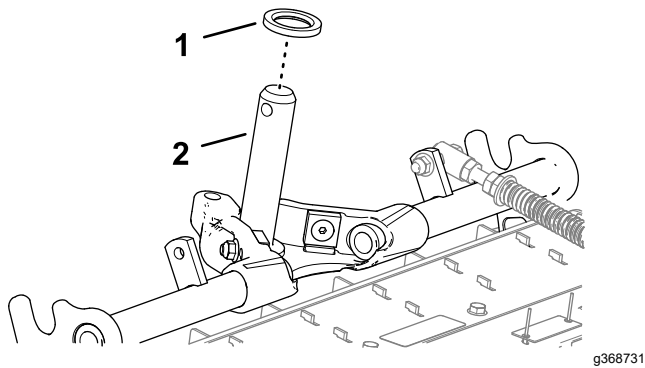

Figure 13
1. Ensure that the countersunk thrust washer is inserted over the carrier-frame shaft (Figure 13).